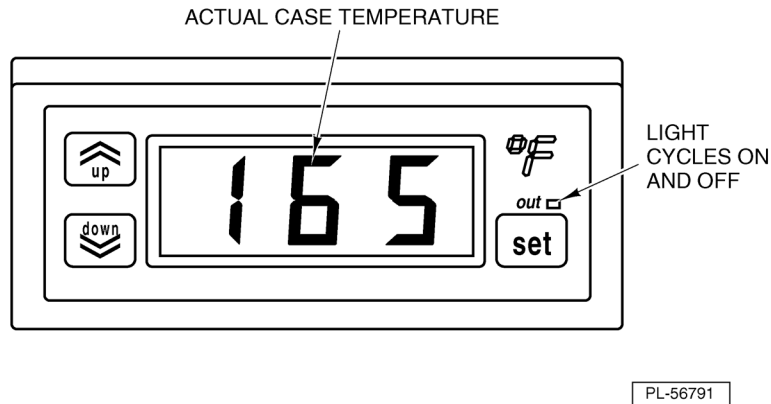

Fig. 34
2. Verify that the display case is at the proper temperature. Case temperature is displayed as shown (Fig. 34).
- During normal operation, you will see the heater output indicator turn on and off as the heaters cycle (Fig. 34).